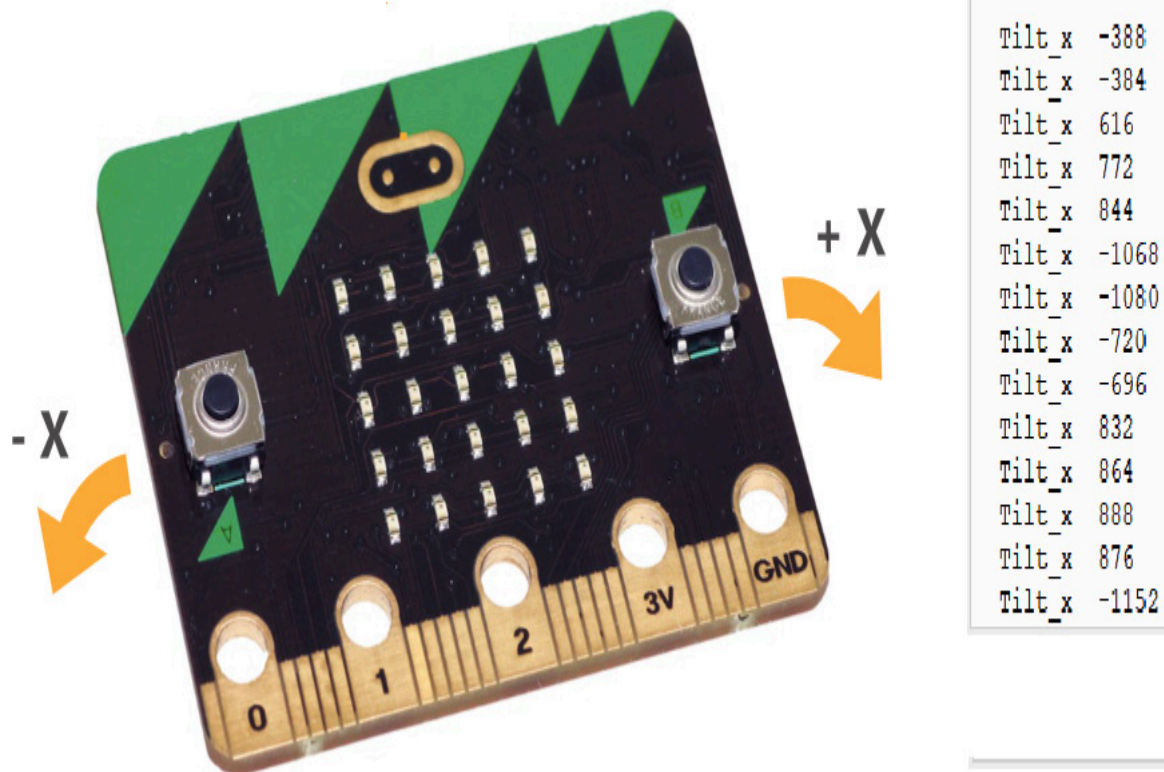

Figure 10.3 – Output of the program based on the tilt on the x axis
*Figure 10.3* shows the output of the preceding program. As observed in the shell window, both positive and negative values are shown; the reason is also demonstrated in the Micro:bit diagram. Due to left and right movement on the x axis, both values will be visualized. If the accelerometer is tilted to the right, we will receive positive values, and negative values will be received when it is tilted to the
*Figure 10.3* only shows the changes in the  $x$  axis data. Just one axis is insufficient for making effective decisions, such as fall detection, pitches, yaws, and rolls. We need to collect data from the  $x$ ,  $y$ , and  $z$  axes. This data will make interpretation more accurate and reliable, as fall patterns can't be analyzed just from one axis. Hence, it is essential to have data stored in a file so it can be used for analysis. Data logging is a method of storing the data coming from sensors, actuators, or any subsystems to keep a record, which will further help decision-making and monitoring. Data visualization is equally essential; it is easier to observe the significant changes via graphs and figures.